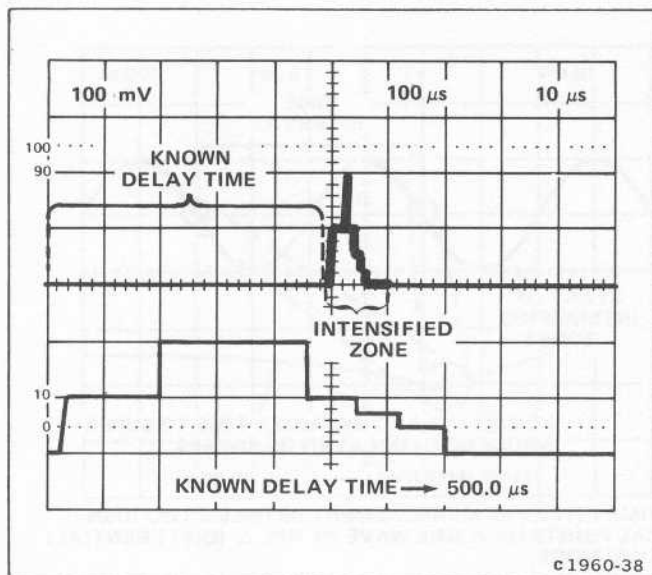

Figure 2-11. Examining an event that occurs within a selected time interval after a known delay time in the delay-time mode.
- b. Set the appropriate triggering, position, deflection-factor, and sweep-rate controls for the desired dual-trace display. See the example in Figure 2-11.
- d. Set the delayed (B) sweep rate (i.e., the intensified zone length) for the desired time interval after the delay time selected in part c. Multiply the delayed (B) sweep rate by 10 to determine the actual displayed delayed (B) sweep time interval. See the example in Figure 2-11.
- e. Observe the magnified event to be examined on the delayed (B) sweep.